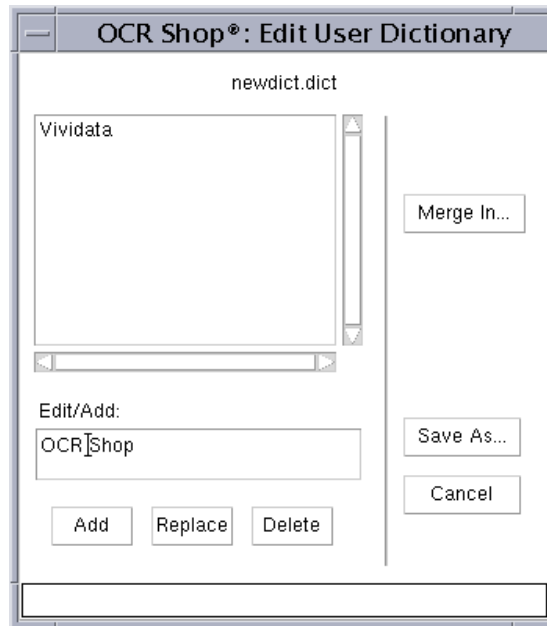

Figure 5-5 Edit User Dictionary
2. Click New. The Edit User Dictionary window will appear, see Figure 5-5.